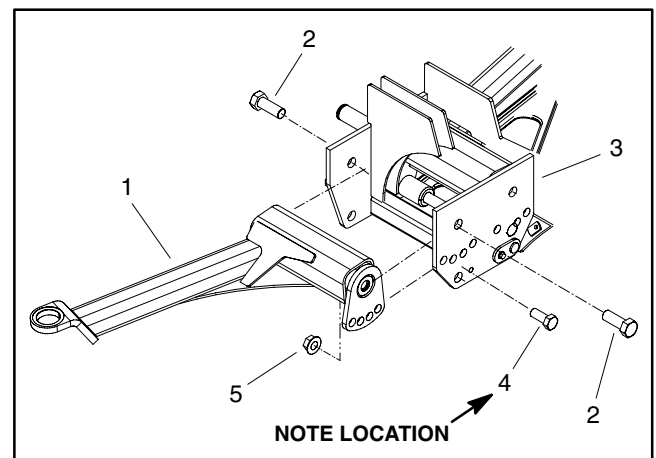

Figure 14
A. During disassembly, note position of cap screw in torque arm of axle assembly for reassembly purposes (Fig. 14).
- B. Install cap screw (Item 2) in noted location of axle assembly torque arm (Fig. 14). Torque cap screw from 130 to 150 ft-lb (176 to 203 N-m).